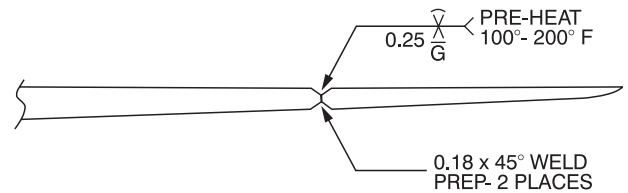

Figure 1-2
- 2) Burn or grind 0.18 x 45° weld prep on top and bottom of platens to match repair tips as shown in Figure 1-2.